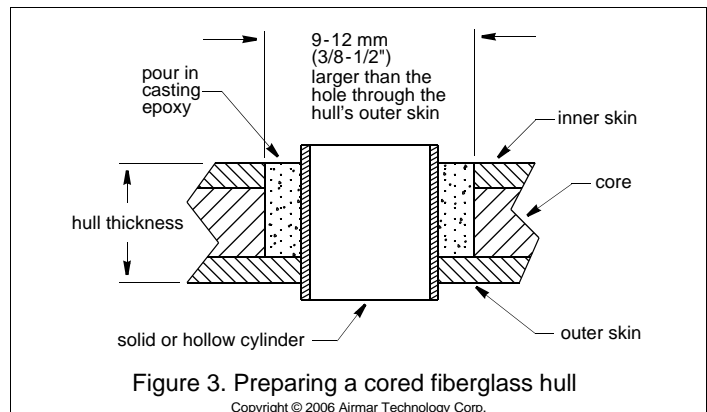

Figure 3. Preparing a cored fiberglass hull
- Using a 51 mm or 2" hole saw, cut the hole from outside the hull through the *outer skin* only (Figure 3).